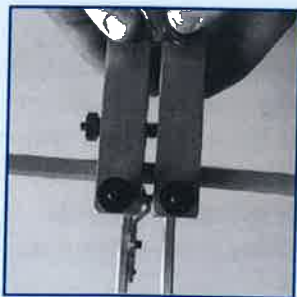

Figure 3
6. On the opposite clamp, loosen nuts and place belt in the same clamping position. **Warning:** Make sure there are no twists in the belt. Slide belt in clamp until the two belt ends butt together. Make sure that ends are properly aligned on all sides; see Fig. 3. Tighten clamp nuts. Note: Try to keep both clamping plates parallel to the grooved base blocks.